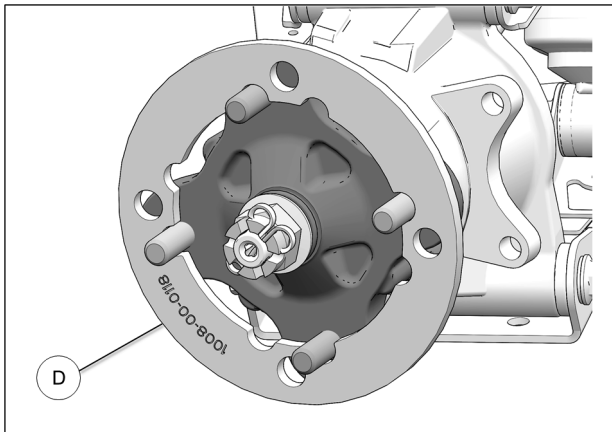

Fig. 9
8. Install wheel spacers (D) on rear hubs. See Fig. 9